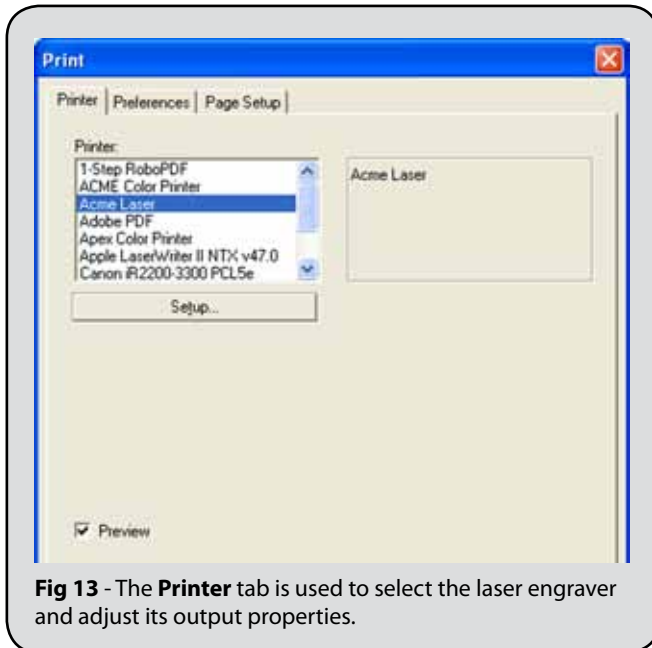

Fig 13 - The **Printer** tab is used to select the laser engraver and adjust its output properties.
3. Tick the **Preview** checkbox. (Fig. 13)